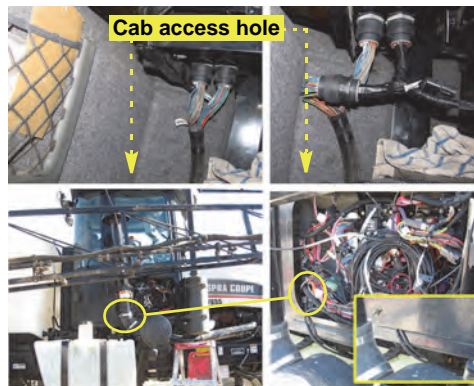

Figure 3a: Routing product control cables
- a. Locate the cab access hole beneath the armrest/control console, to the rear of the document pocket (Figure 3a, upper images, hole not visible). Route the two product node connectors out of the cab into the cabling compartment on the right side of the machine (Figure 3a, bottom images).
- c. Refit the cabling compartment cover (Figure 3a, bottom right inset).